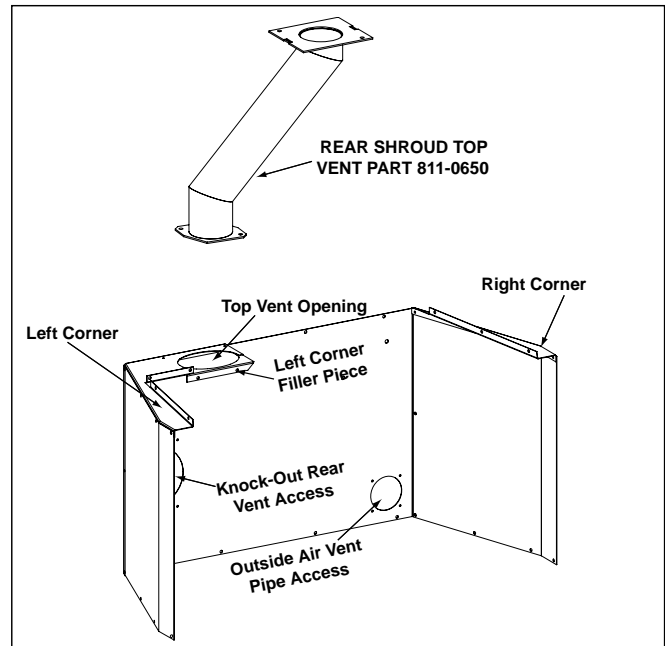

Figure 18.1
2. Use 2 screws to attach left corner filler piece of rear shroud to the insert hopper. **Figures 18.1 and 18.2.**
7. Use 2 screws to attach left corner filler piece of rear shroud to the insert hopper. **Figures 18.1 & 18.2 on page 18.**